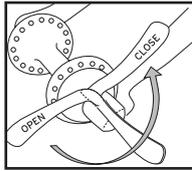

Figure 34- Proper lever throw
- Place the lever in the palm of your hand and throw the lever as shown in Figure 34 to the **CLOSE** position (Figures 36-37).